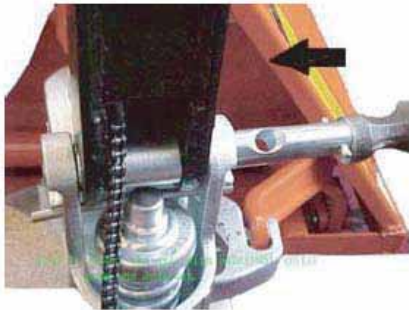

Fig. 2
3. Verify that the product and your application are compatible. If in doubt, contact Technical Service at (888) 332-6419.
4. Install draw-bar to pump unit. Use a hammer to insert the axle with hole into the hydraulic pump, see Figure 2